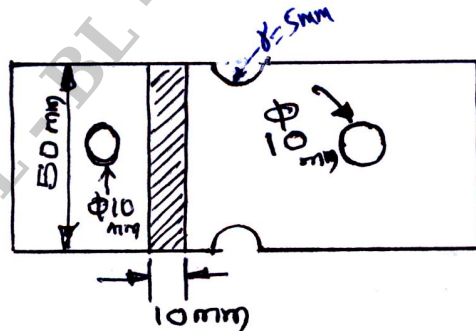

Fig. Q2 (c)
- c. Determine the Safe Load that can be carried by a bar of rectangular cross section shown in Fig. Q2 (c) limiting the maximum stress to 130 MPa. Take stress concentration into account.